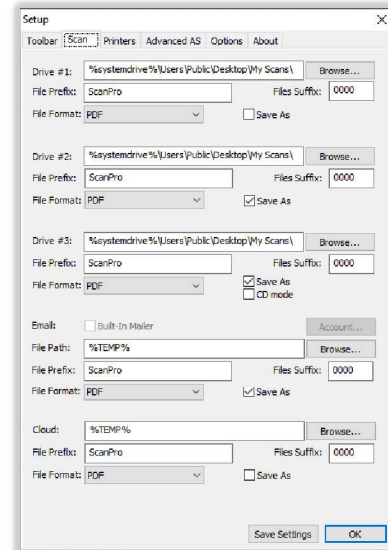

Figure 35
- a. Create a secure settings password (see “Section III.12 Setup Window: Options Tab”). The email *Account* button will not be active until a Secure settings password has been created. *Figure 35*